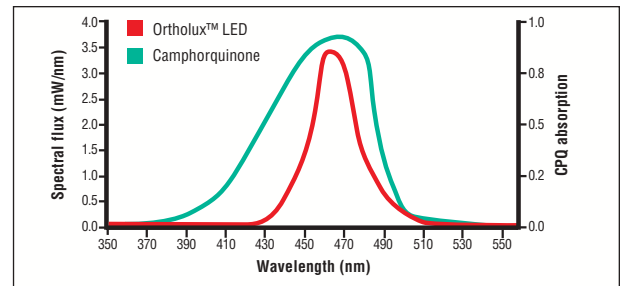

Figure 2
6. Does the Ortholux LED curing light emit ultraviolet (UV) light?
- A. Light cure adhesives contain photoinitiators, such as camphorquinone (CPQ), that polymerize when exposed to light in the 430 to 480 nm wavelength range. Increasing the light intensity in this range speeds the polymerization process, resulting in a faster cure (ref. Figure 2).